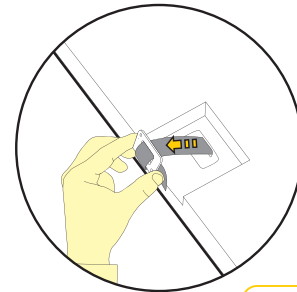

Figure 3
**Step 3:** Locate the adjuster at the side of the restraint and secure using the Top Tether Strap Guide (refer Figure 3).